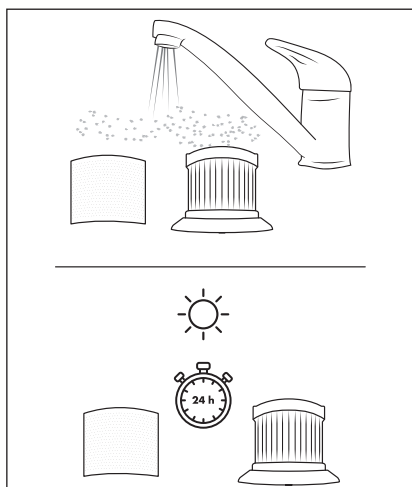

Fig. 13
- 4) Rinse the EPA filter **5** and stainless steel filter **6** under cold or lukewarm water. Allow the EPA filter **5** and stainless steel filter **6** to air dry completely before putting them back into the dust container **2** (see Fig. 13).